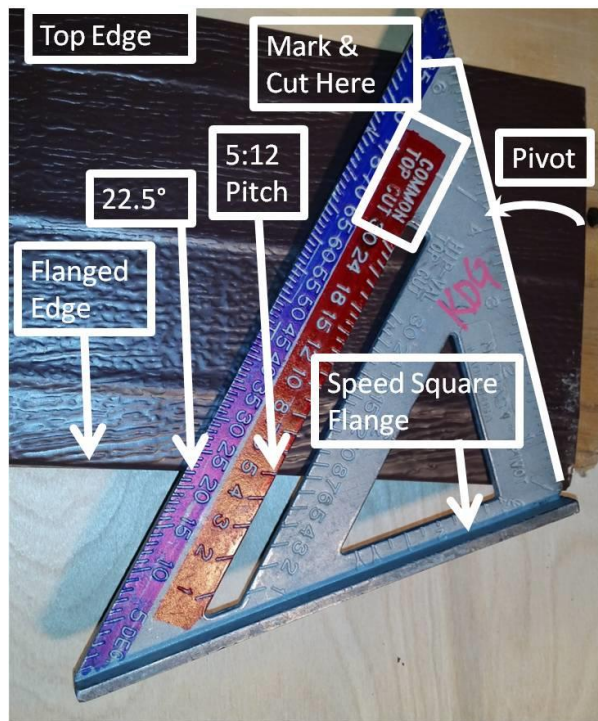

Figure 11-13. Marking Gable Eave End Fascia Angle.
8. Position the flange of a speed square along the soffit flange (or along the edge where the LONG point will be) as seen in Figure 11-13. With the square corner of the speed-square against the edge at the length desired, pivot the speed-square at the 90° corner until the "5" on the "Common/Top Cut" (red) scale is aligned with the same edge (e.g. flanged edge). Draw a line along the short edge of the speed square on the face of the fascia.